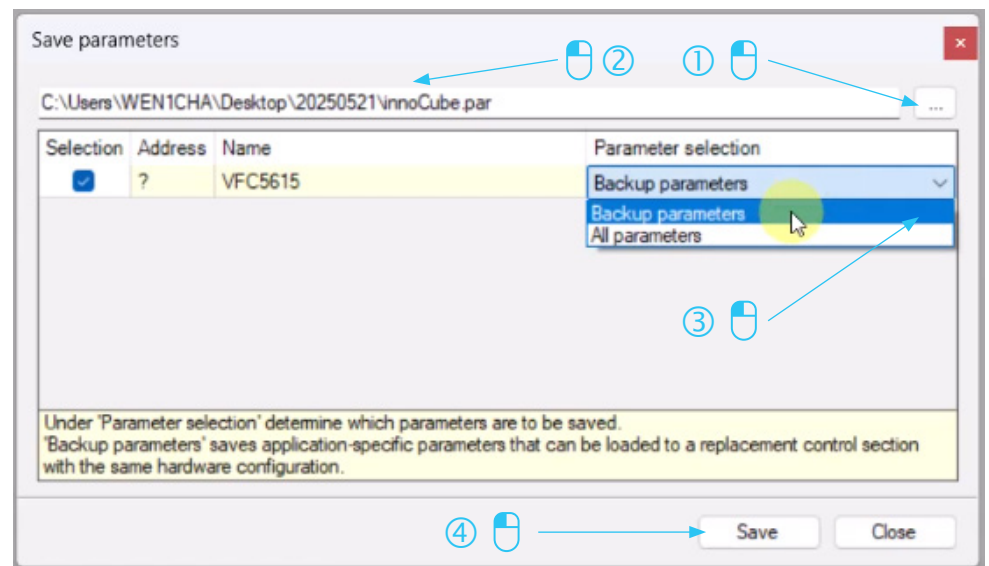

Fig. 8: Save parameters window
- Now, select a path and assign a name for the parameter file. You can save all parameters or backup parameters (see Fig. 8: Save parameters window).